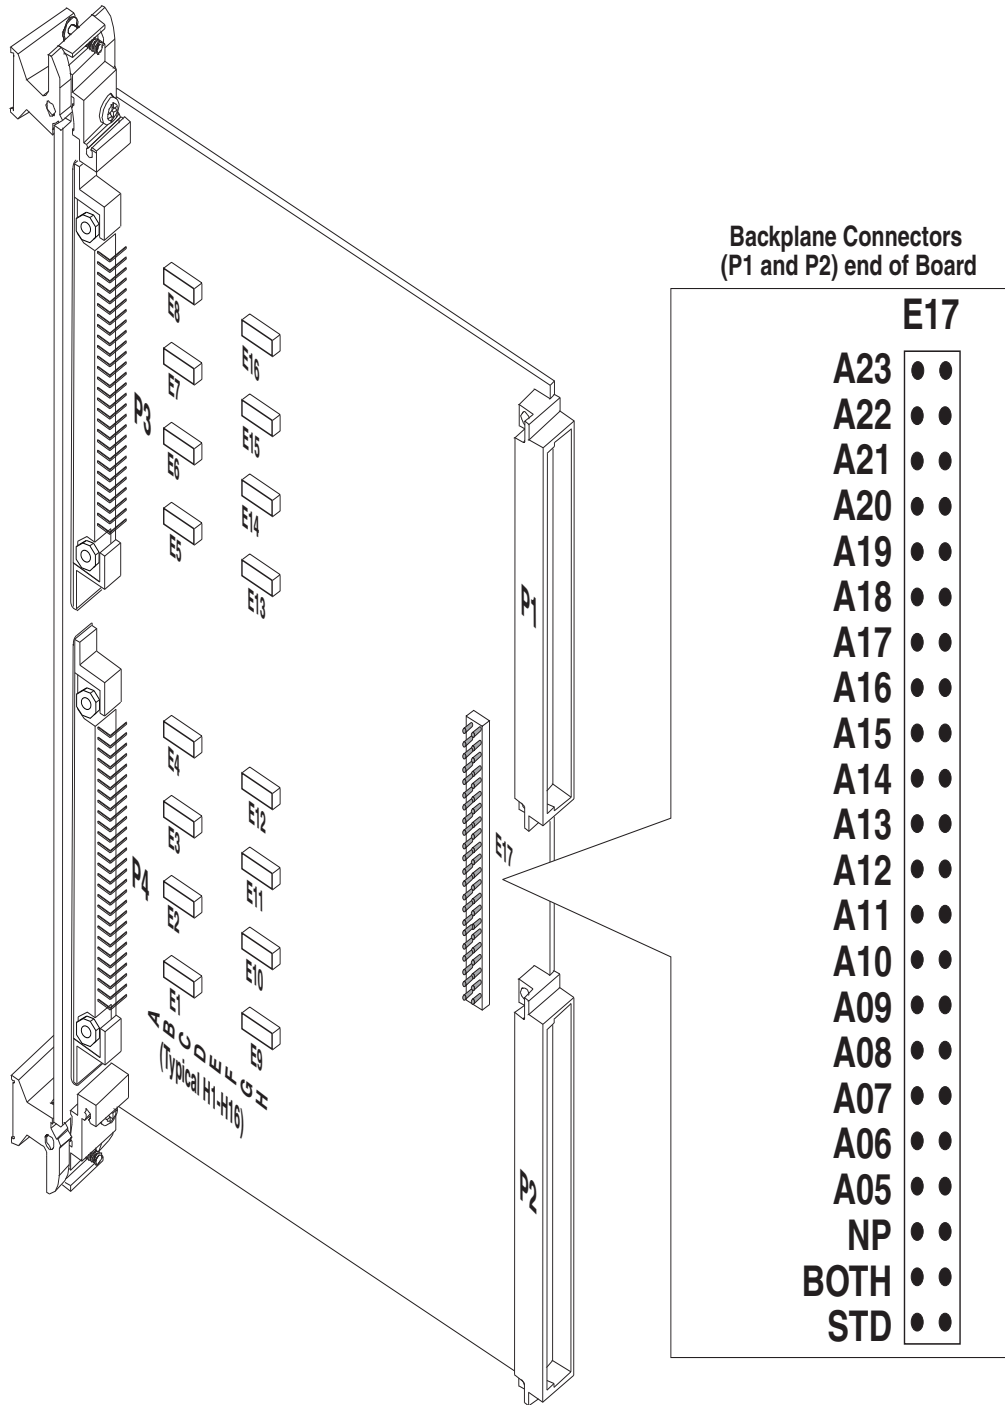
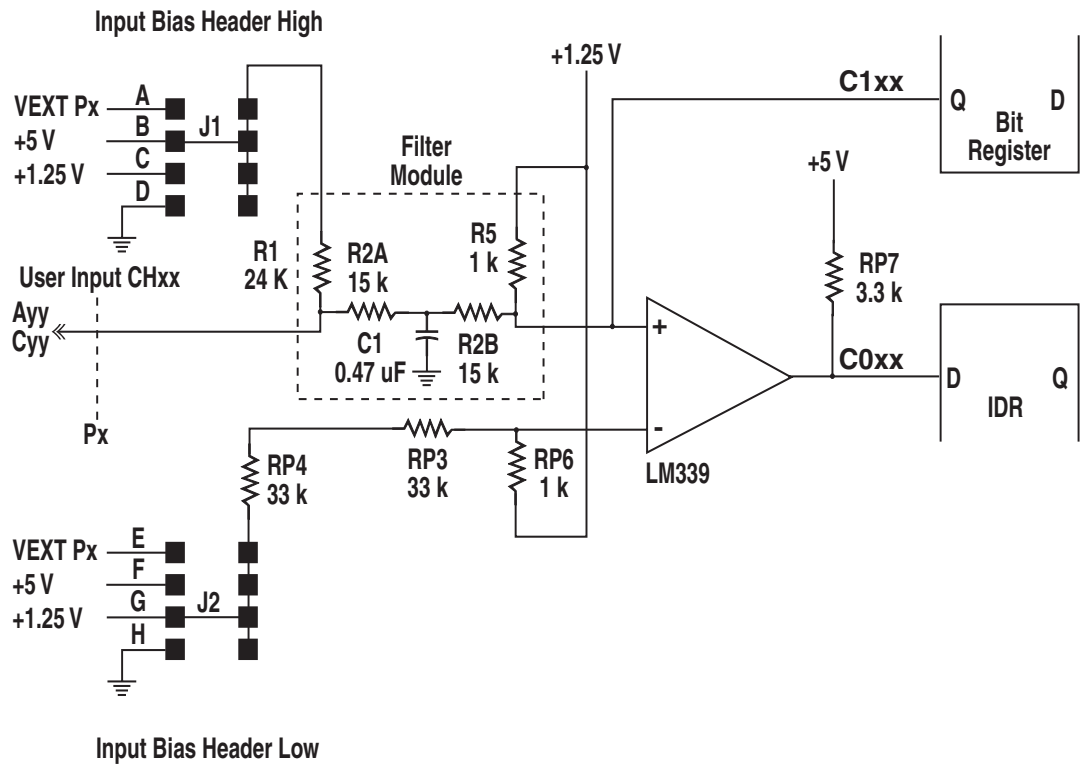
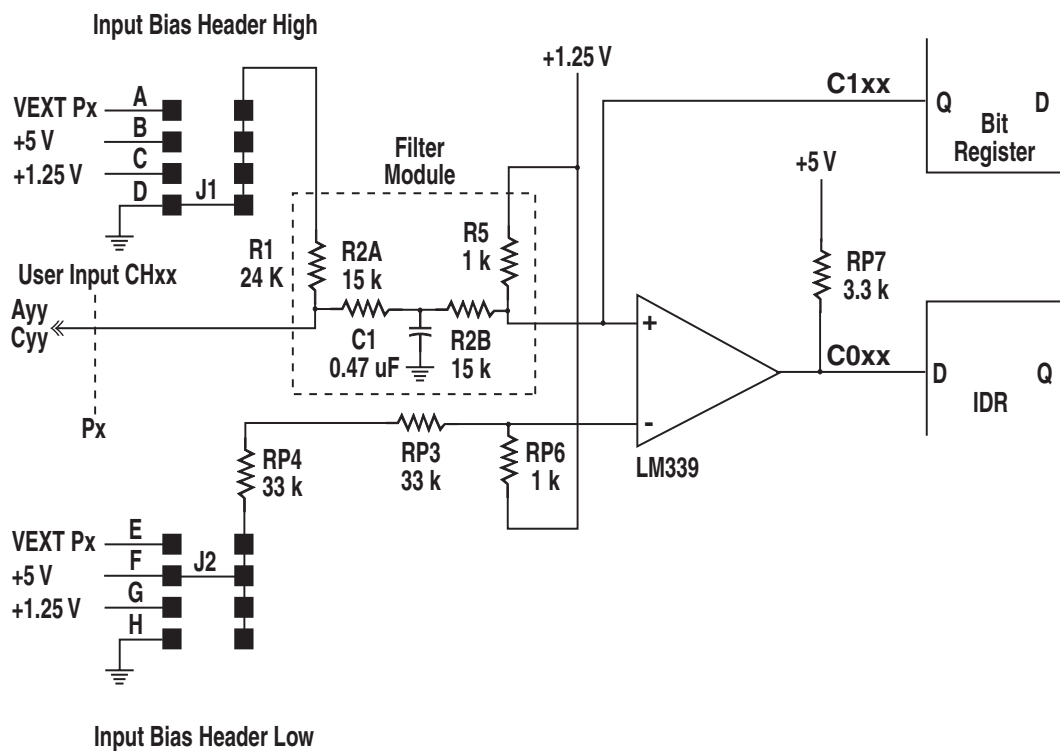

Figure 2-1 Physical Location of Jumpers
Figure 2-2 Basic Current Sinking Input
Figure 2-3 Basic Voltage Sourcing Input
The input topology is configured by placing jumpers in certain positions of a header field. Figure 2-2 on page 25 shows the circuit topology for a current sink input. Figure 2-3 on page 25 shows a voltage source input. Jumper J1 selects the pull-up voltage applied to input resistor RP1 and J2 selects the reference voltage applied to the threshold resistor RP4. Jumpers J1 and J2 in these figures represent the jumpers used to control a group of 8 input channels. The physical location of these jumpers is shown in Figure 2-1 on page 24.
If J1 is in the ground position, the input circuit is voltage sourcing. In any other position, the input is current sinking. In the circuit shown in Figure 2-3 on page 25, the voltage is 5 V. If the voltage you are using is greater than 5 V, then you should use Vext for J1. Table 2-2 on page 26 shows the location of Vext for each group of channels.
- Review this chapter to verify factory installation of the jumpers. See Figure 2-2 on page 25 for factory configuration.
- The VMIVME-1129 is designed to accommodate either current sink or voltage source inputs. See Figure 2-2 and Figure 2-3 on page 25, respectively, for the correct configuration of the desired input.